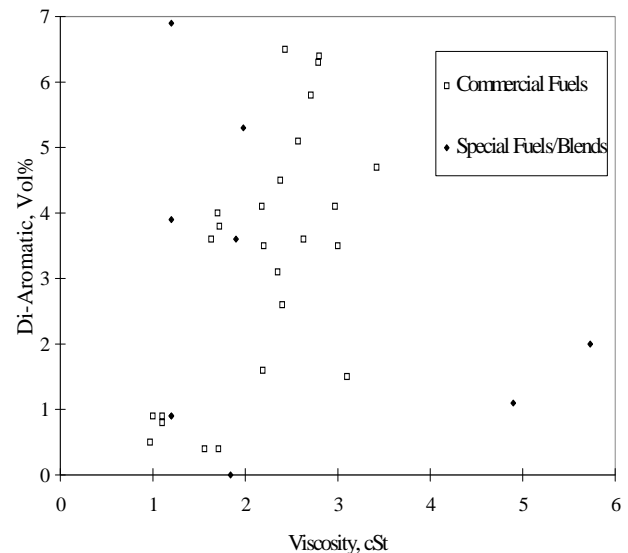

Figure 2 Ranges of viscosity and di-aromatic content of fuels studied.
In order to test the validity of the hypothesis that viscosity and DA are the only two parameters needed for the prediction of lubricity, six additional special blends of unadditized diesel fuel were chosen with widely varying viscosity and di-aromatic content. The properties and the S BOCLE data of these special blends are shown in Table 3. One of them contained no detectable fuel sulfur (<10 ppm). In Figure 2, the viscosity of all fuels/fluids are plotted against the di-aromatic content. A viscosity range of 1-6 cSt and a DA of 0-7% were chosen because it was felt that these ranges would cover most low sulfur fuels in production. It shows that most commercial fuels fall within a certain band on this figure, yet the additional reference fuels fill in the upper left and lower right corners testing the hypothesis under various combinations of the two parameters. No special attempt was made to add data in the upper right corner in Figure 2 because it represents a combination of high viscosity and high di-aromatic content. An extensive survey of No.2 high and low sulfur fuel by Cusano et al (13) showed that the di-aromatic content of high sulfur fuels was 3.5% higher than low sulfur fuel on average while the viscosity was similar. High sulfur fuel that had no past lubricity problem would fall in the upper right quadrant. Of course, adding high sulfur fuel would no doubt improve the correlation to be proposed.